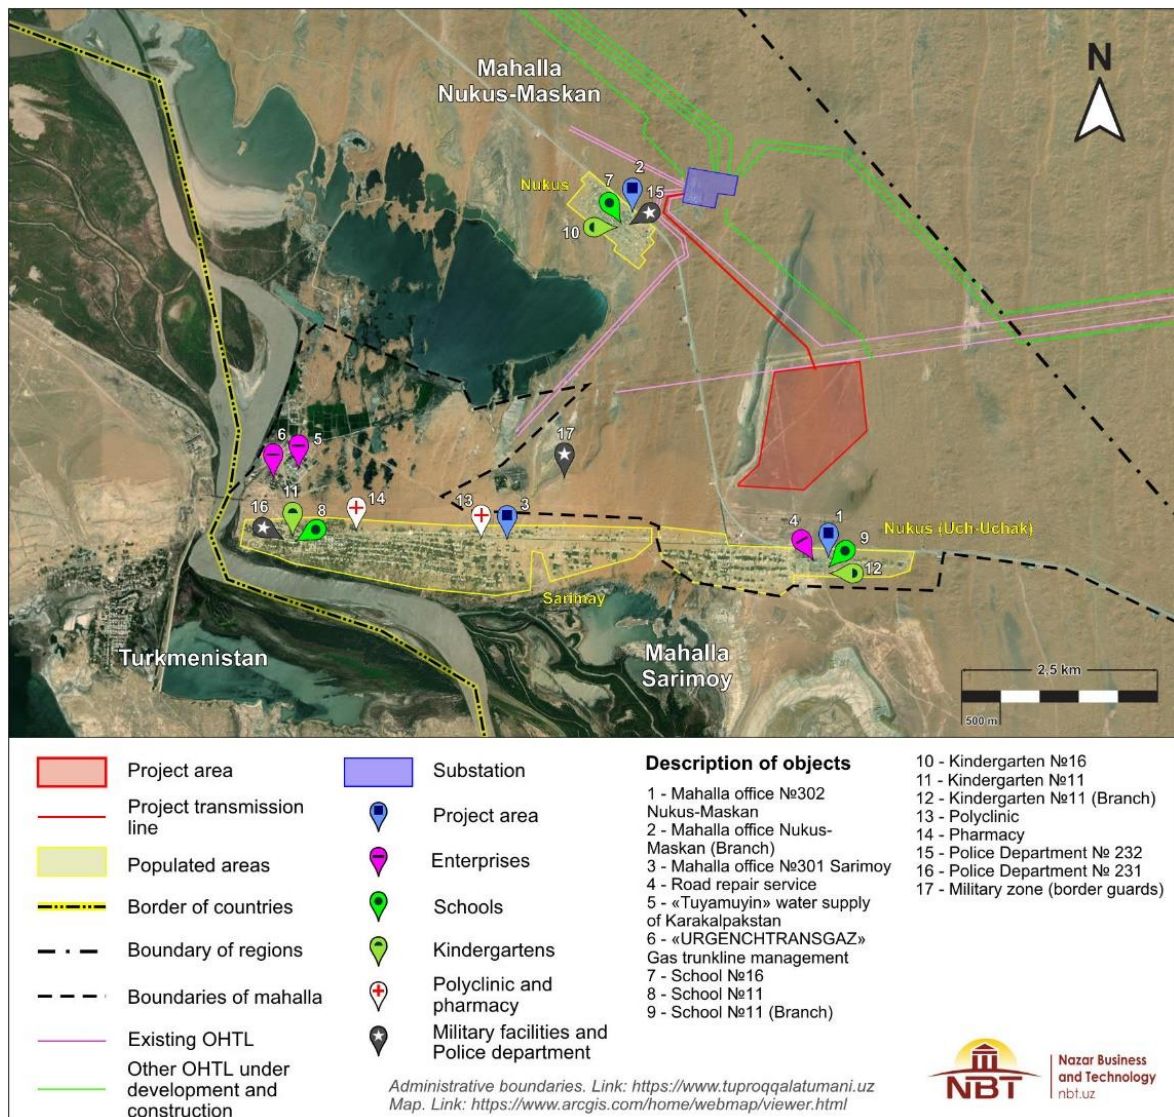

Figure 3: Project area and surroundings. Source: NBT, 2023.
The Project covers approximately 177 hectares which will be utilized entirely for the construction and installation the solar photovoltaic power plant. The Sarimay Switching Station (SS) can be found at 3 km north-east of the Project site, which will receive the Project’s produced energy. The two nearest settlements are the two villages of Sarimay and Nukus. The Project layout and some characteristics of its surroundings, such as communities and infrastructure are shown in Figure 3 below.